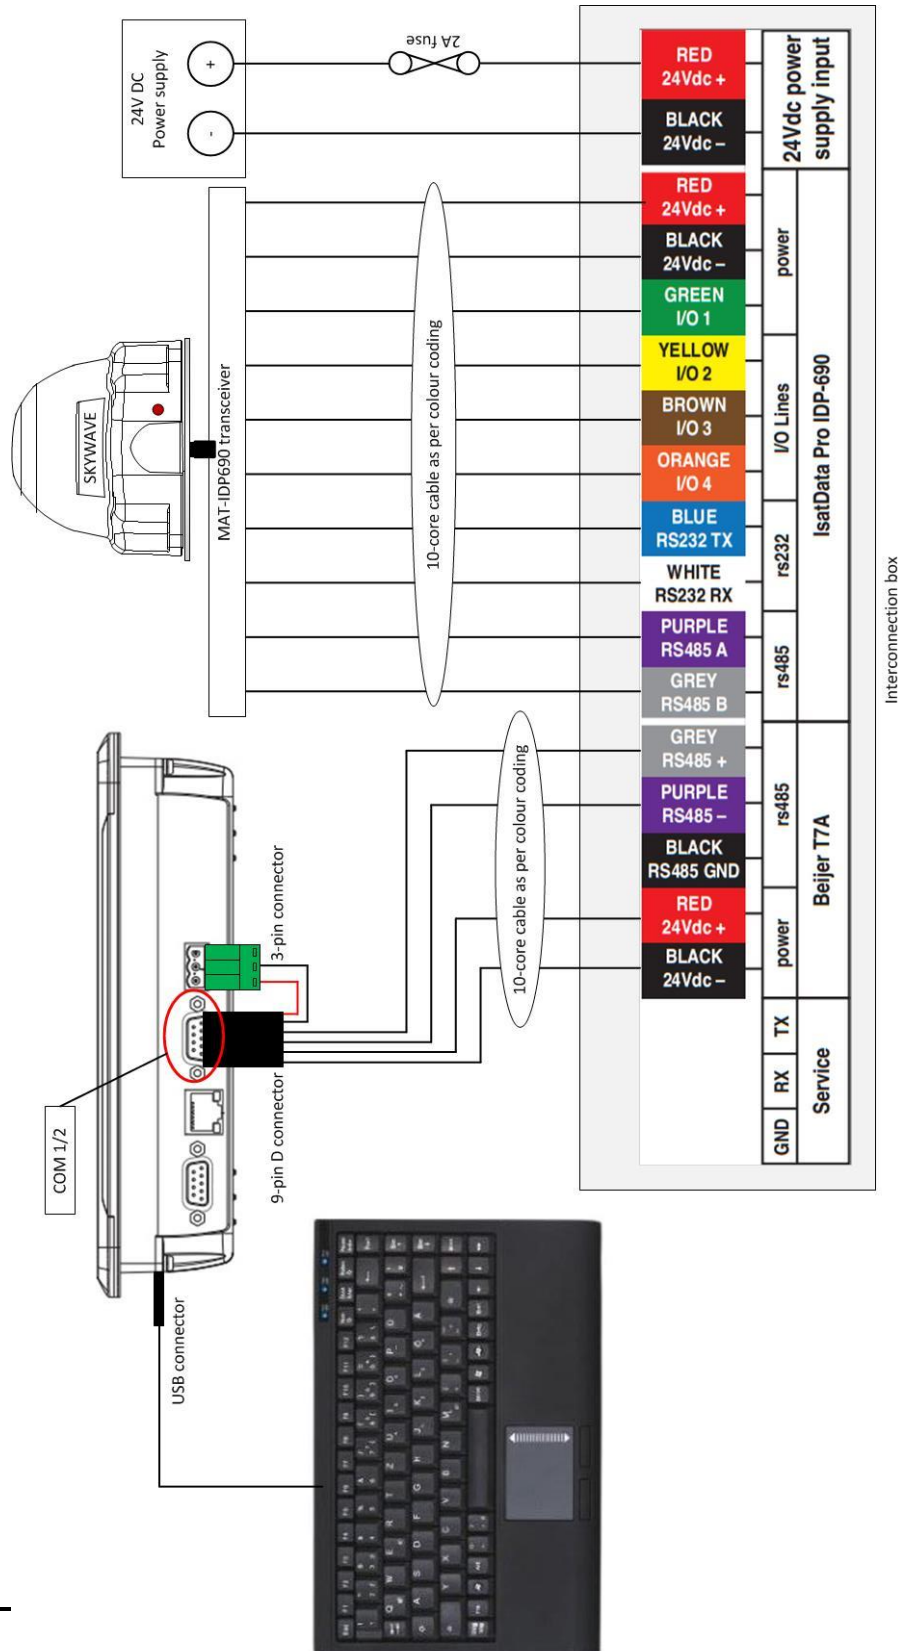

Figure 6: MDT interconnection box wiring
4. Run the transceiver cable from the transceiver to the interconnection box and connect as shown in Figure 6.
10. Connect the USB cable from the keyboard to the USB socket on the operator panel as shown in Figure 6.
11. Run the power and data cables from the Beijer operator panel to the interconnection box and connect to the interconnection box as shown in Figure 6. Note that the 6 unused cores should be blunt cut back to the outer sheath of the cable.
12. Run the 2-core cable from the 24V DC power source to the interconnection box and connect as shown in Figure 6. The fuse holder and 2A fuse should be connected in-line on the positive wire as shown.
2. Connect the 3-pin power connector and 9-pin D connector to the operator panel as shown in Figure 6